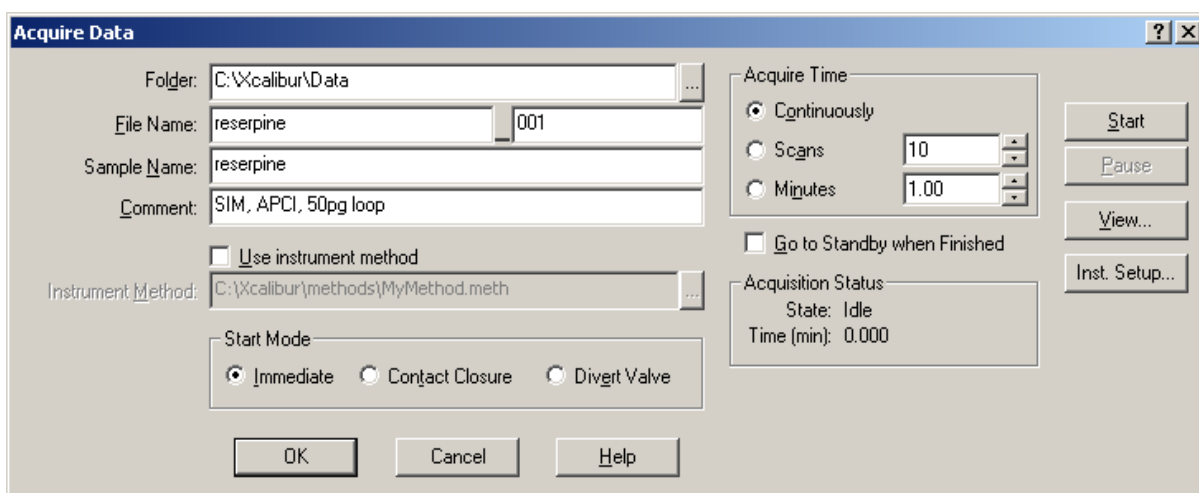

Figure 65. Acquire Data dialog box, showing the acquisition status of the raw data file
5. On the Control/Scan Mode toolbar, click **Acquire Data** to open the Acquire Data dialog box. See Figure 65.
8. Click **Start** in the Acquire Data dialog box to begin acquiring data to the file reserpine3.raw. See Figure 65. The Acquisition Status group box displays the following message.